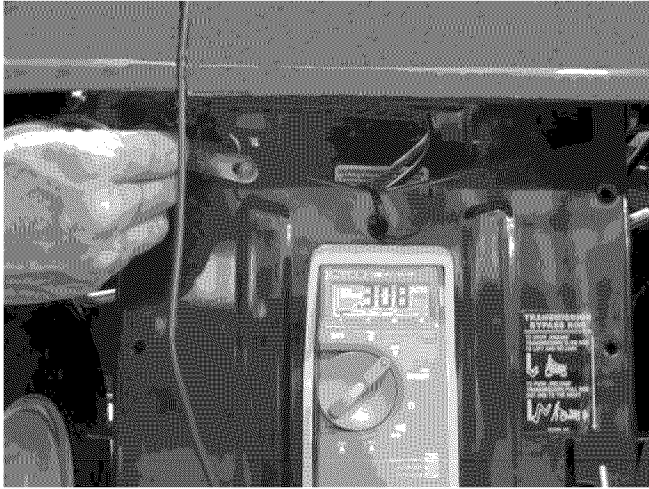

Figure 7.48
- As an example, if the starter solenoid does not engage properly, check for voltage drop between the ground point for the starter solenoid and the negative post on the battery. See Figure 7.48.